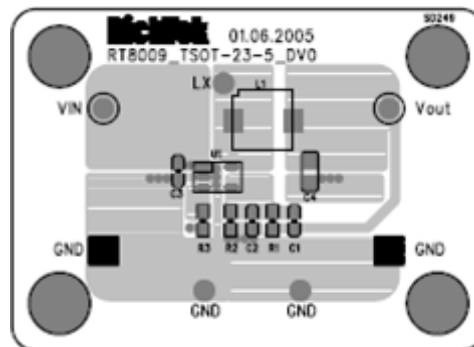
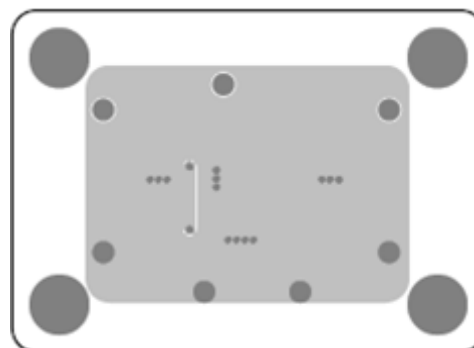

Figure 7. Top Layer
Figure 8. Bottom Layer
- ▶ An example of 2-layer PCB layout is shown in Figure 7 and Figure 8 for reference.